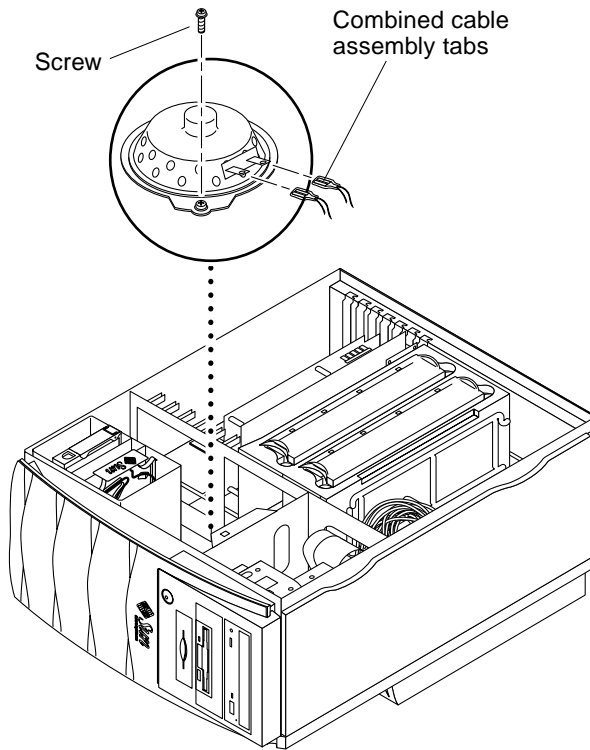

FIGURE 6-15 Removing and Replacing the Speaker Assembly
2. **Using a No. 2 Phillips screwdriver, remove the screw securing the speaker assembly to the chassis (FIGURE 6-15).**
1. **Connect the combined cable assembly connectors to the speaker assembly terminators (FIGURE 6-15).**